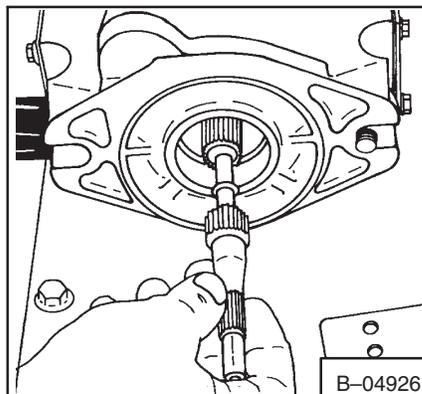

Fig. 2-38 Removing The Shaft
3. Remove the shaft (Fig. 2-38).
1. Install the shaft (Fig. 2-38). Turn the shaft all the way in. Then turn the shaft counterclockwise to align the splines.